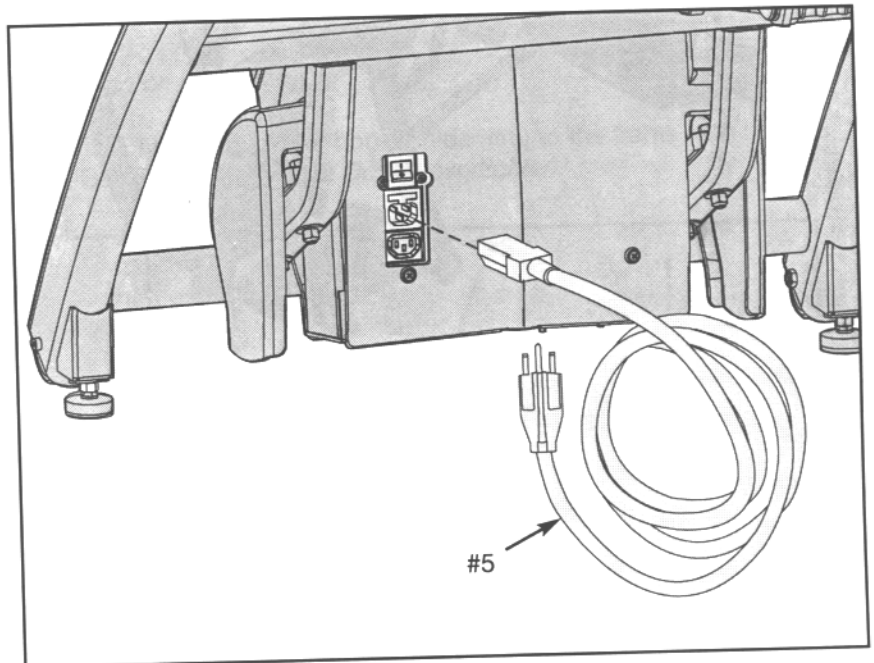

Figure 16
- A. Plug the power cord (#5) into the inlet near the on/off switch. **NOTE:** Do not plug the power cord into an outlet at this time. See Figure 16.